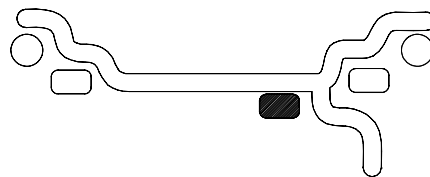

Figure 16
**B. STATIC** (single plane - Figure16). Suggested for narrow rims (3" or less). Use a single corrective weight placed in the center of rim as illustrated in Figure 16.